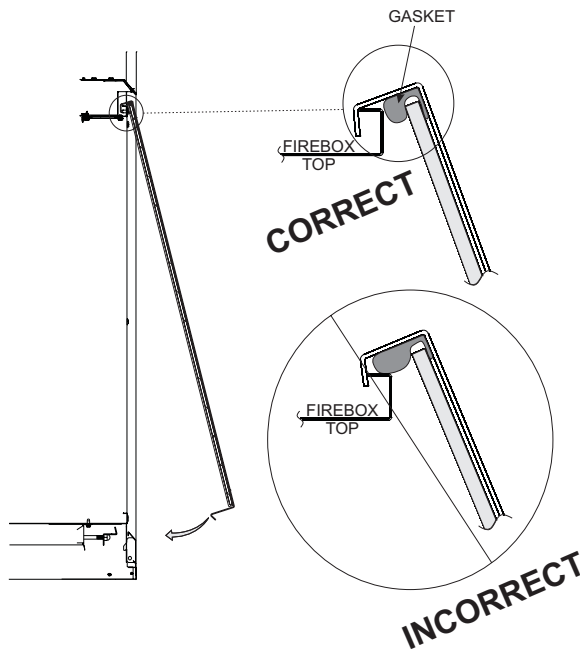

Figure 33
1. When installing the Glass Door assembly, make sure that the door top flange is hooked over the firebox top flange as illustrated in the "Correct" view in Figure 33.
**Important:** Do not allow the gasket across the top of the door to roll up on top of the firebox flange as shown in the "Incorrect" view in Figure 33.